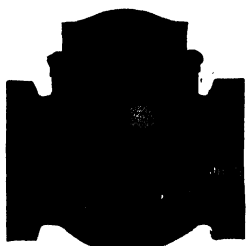

Fig. 45. Crane Ball Check Valve
**Check Valves.** In the lines where it is desired to have the fuel, water, or steam pass in but one direction there are placed valves which allow only this one-way passage and are known as check valves. There are several types, including poppet, hinged, and ball checks. The latter, Fig. 45, is very largely used and consists of a ball which